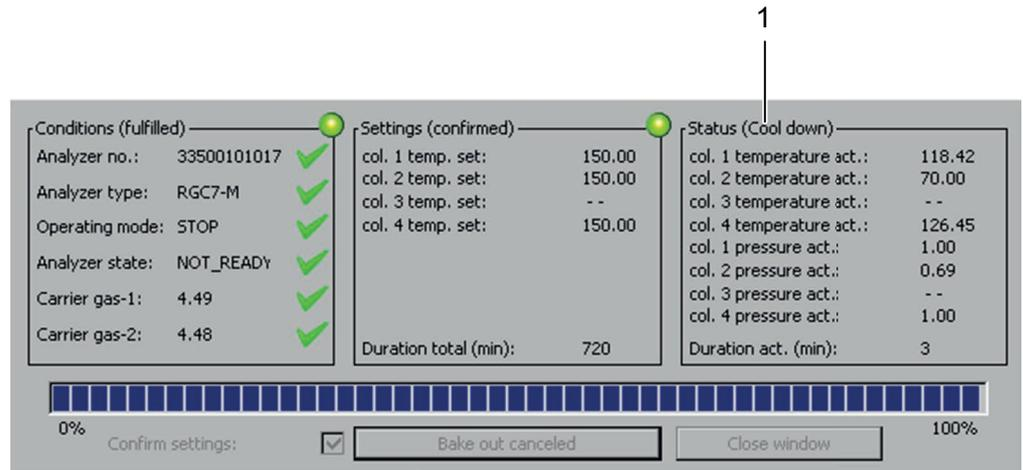

Fig. 41: Menu Bake-out – Cool-down process
- ➔ Actions and interventions in the cool-down process are no longer possible, i.e. you now have to wait until the cool-down time (always one hour) is over (cf. fig. 41).